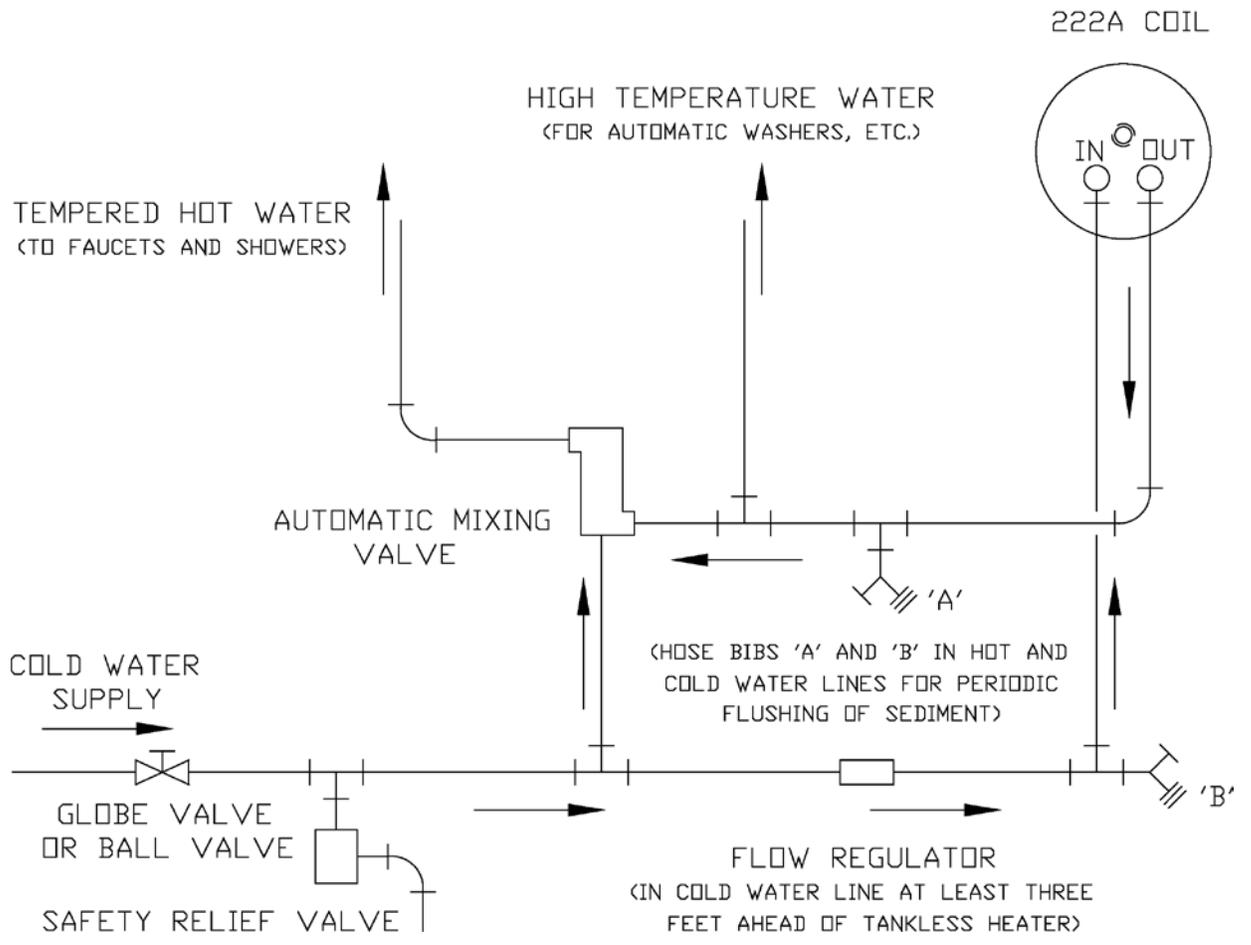

Figure 12: Schematic Tankless Water Heater Piping
- A. **CONNECT TANKLESS HEATER PIPING** as shown in Figure 12. See Table 4 for Tankless Heater Rating.
possible by piping the hot water from the heater prior to entering the mixing valve. The mixing valve should be "trapped" by installing it below the cold water inlet to heater to prevent lime formation in the valve. Refer to Figure 12.